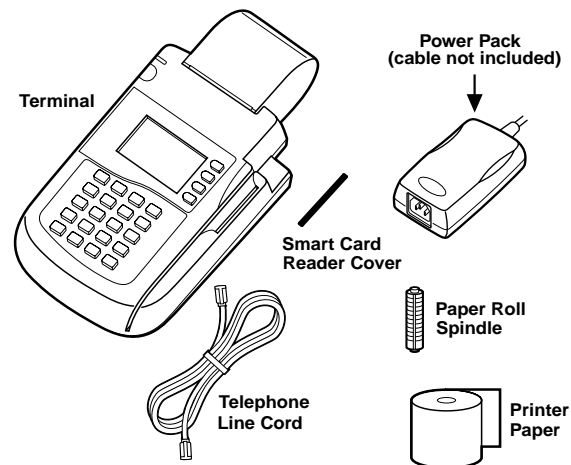

Figure 1 Omni 3350 Product Components
1. Open the shipping carton and carefully inspect its contents for possible tampering or shipping damage (Figure 1).